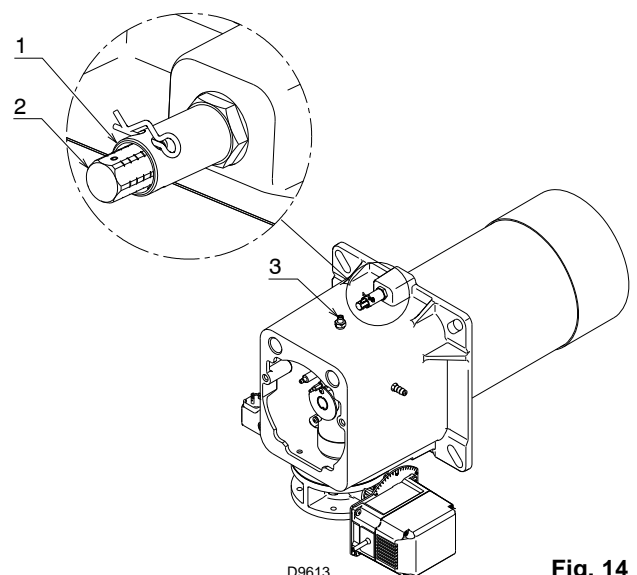
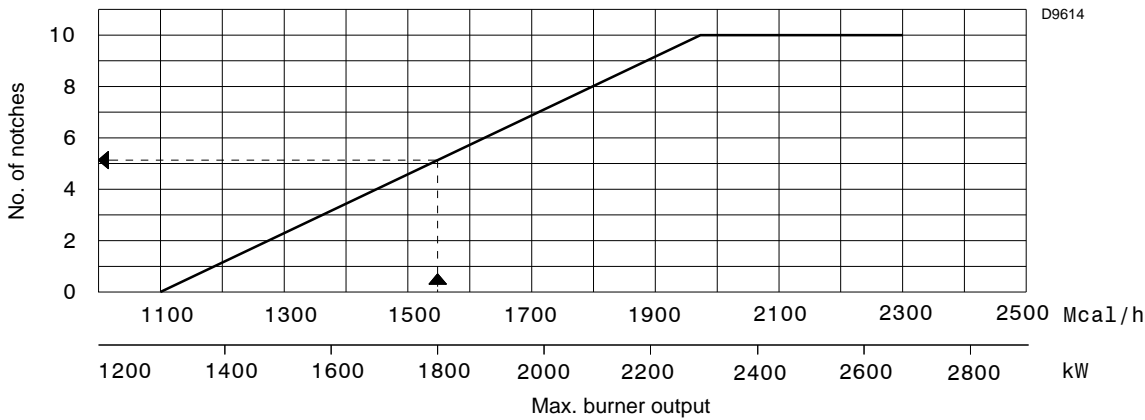

Fig. 14
Fig. 15
In the diagram of Fig. 15, find the notch at which to adjust the screw 2) (Fig. 14).
The diagram of Fig. 15 shows that for this burner output, the air adjustment should be made on notch 5.
- combustion head adjusted as shown in the diagram of Fig. 15.